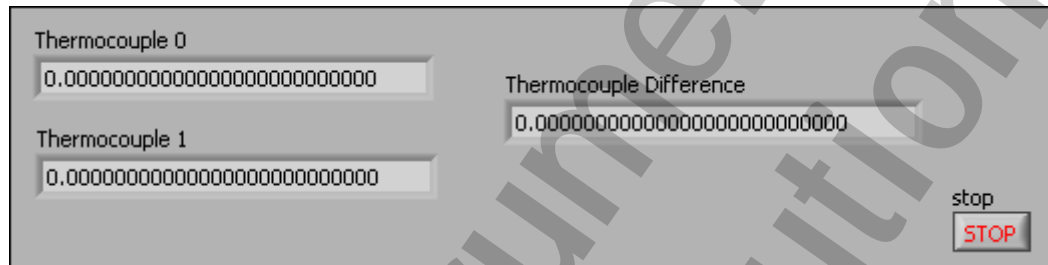

Figure 4-6. CompactRIO IO Front Panel
6. Arrange the front panel window shown in Figure 4-6.